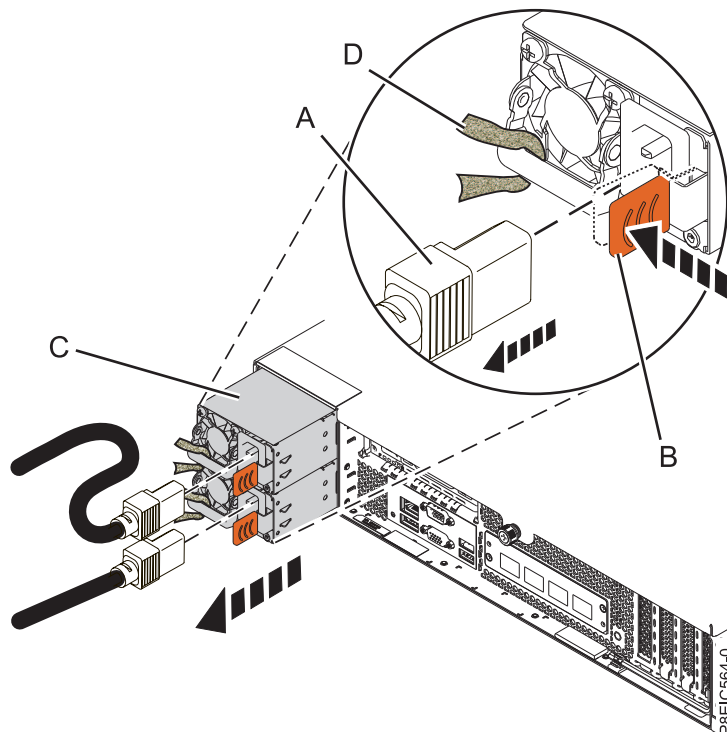

Figure 58. Removing a power supply from the system
- a. To unseat the power supply from its position in the system, push the locking-tab (**B**) in the direction shown. See Figure 58.